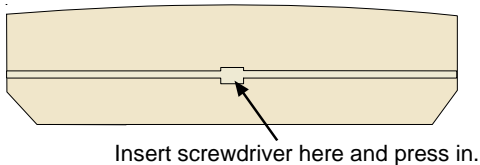

Figure 1: Removing the Outer Cover
- Remove the outer cover of the receiver (see *Figure 1*) and set it aside.
- If not already done, remove the receiver's outer cover (as shown in *Figure 1*) and set it aside.